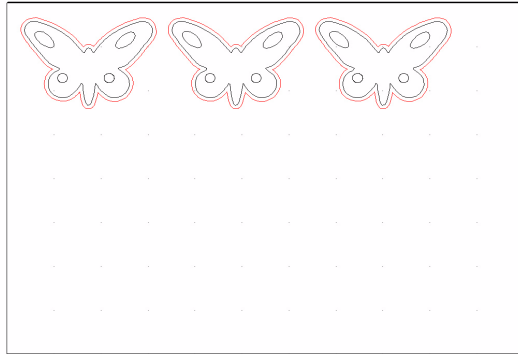

Figure 49
- 6 Click **OK**. The images appear across the page, as shown in figure 49.